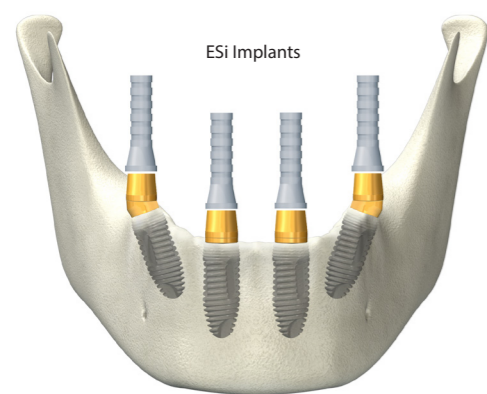

Fig. 11
- Place titanium sleeve with the help of multi-unit screw into the multi-unit abutment. (Fig. 11)